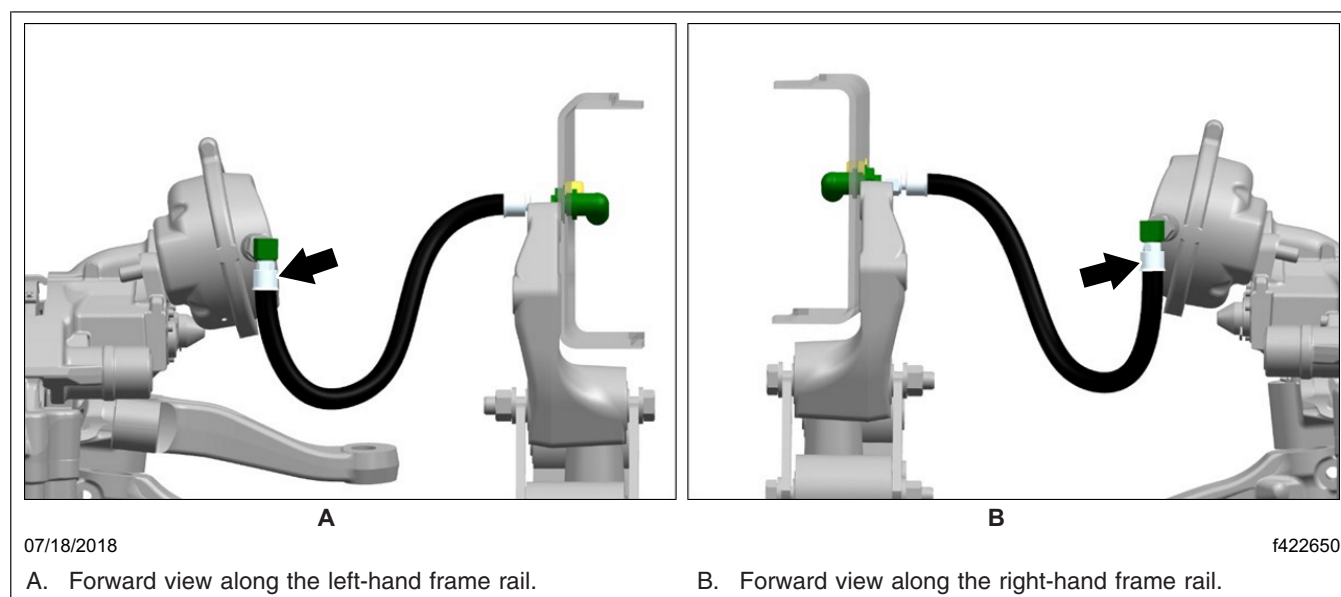

Fig. 2, 90 Degree Fitting, Facing Straight Down
8. Rotate the fitting so that it faces straight down as shown in Fig. 2.
10. Install the brake hose on the 90 degree fitting as shown in Fig. 2.